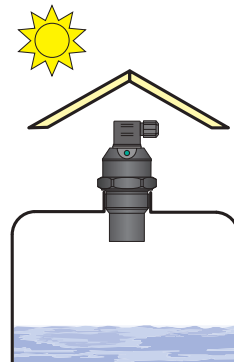

Fig. 8: Shielding cover against direct sunlight
- l) If installation in places with direct sunlight is inevitable, it is necessary to mount a shielding cover above the device (Fig. 8).